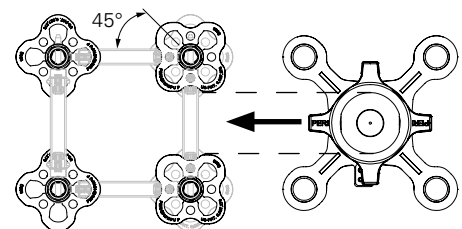

Fig. A1.06a
1. Remove Ledgers (3) up to the leg joint on three sides of the prop.
2. Remove Locking Pins Ø 48/57 (5) from two opposite-positioned Standards.
3. Turn the two free Standards UVR by 45°. (Fig. A1.06a)